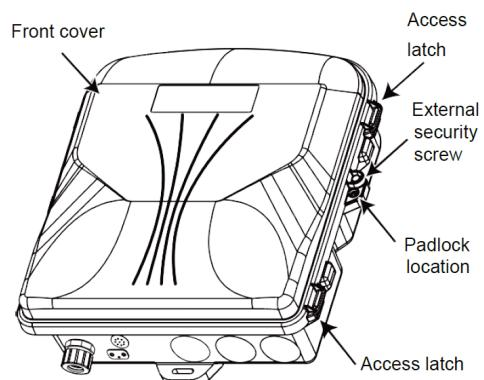

Figure 5 ONT Fiber Port
Notes: The unit should be mounted on the wall with the DC connectors facing sideways. See Figure 5. Make sure that there is enough space at the rear to insert/extract the PSMs.
- Step 2** Depress the access latches on the side of the unit and open the front cover (Figure 5).